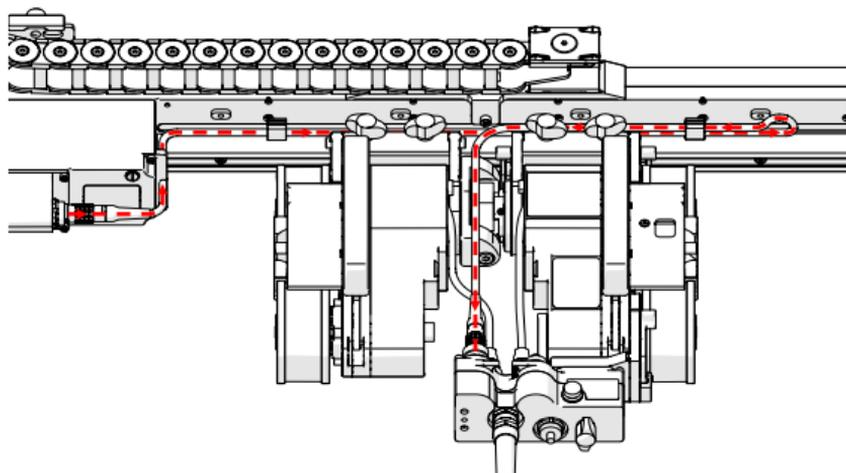

Fig. 37 - Raster arm cable routing
5. The opposite end of the raster arm cable is connected to the crawler umbilical port marked Y-ENC (Fig. 37).